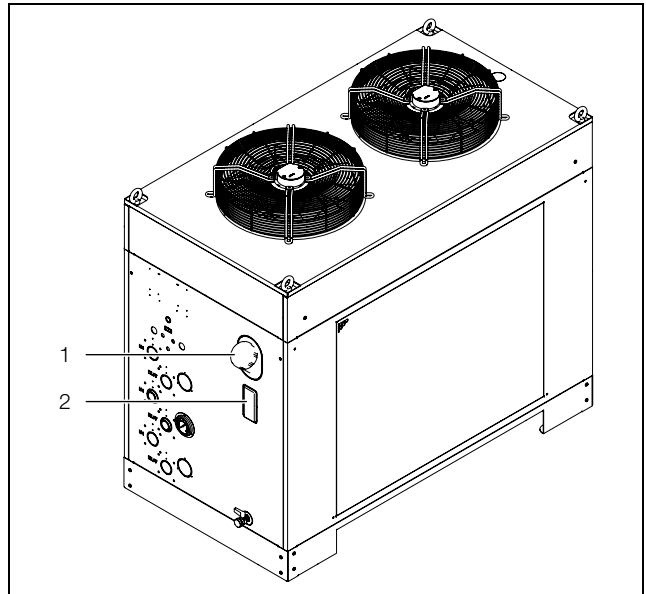

Fig. 21: Filling the cooling medium
- Fill the chiller tank with cooling medium via the fill nozzle (fig. 21, item 1).
- Check the filling level on the container through the opening in the casing (fig. 21, item 2).